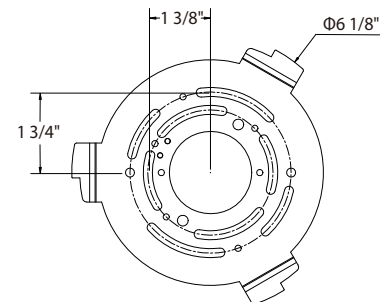

FIG. 2 Wiring
WIRING AND HANGING FIXTURE(Fig. 1, Fig. 2, Fig. 3)
7. Connect the driver's input/output wires to junction box wires and fixture wires as shown in Fig. 2/Fig. 3 using wire connectors (A) provided. Ensure all wire connectors are secure. Connect the fixture's ground wire to the ground in the junction box; this will be either a green wire or a bare copper wire. After wires are connected, tuck them carefully inside the junction box.
8. Secure the fixture by mounting the canopy to the ceiling plate. Slide the canopy in the direction of the notch until it latches in place. Fasten the canopy to the ceiling plate using the canopy screw (B).